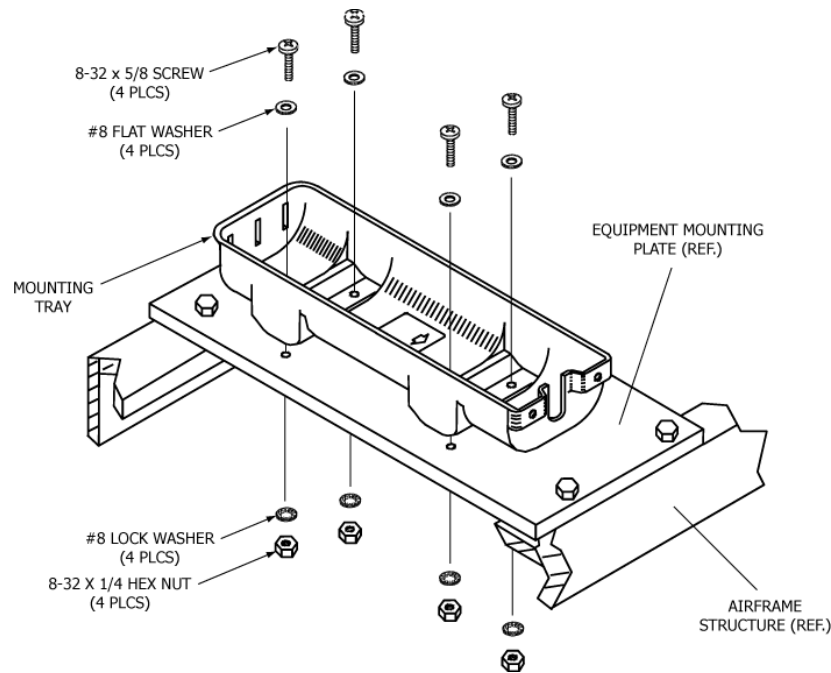

Figure 15 Typical Mounting Tray Installation
- 1) See Figure 15.
- 6) Install the mounting tray with the 8-32 x 5/8" SS pan head phillips screws, flat washers, lock washers, and nuts provided in the installation kit (455-7421), as shown in Figure 15 on page 42